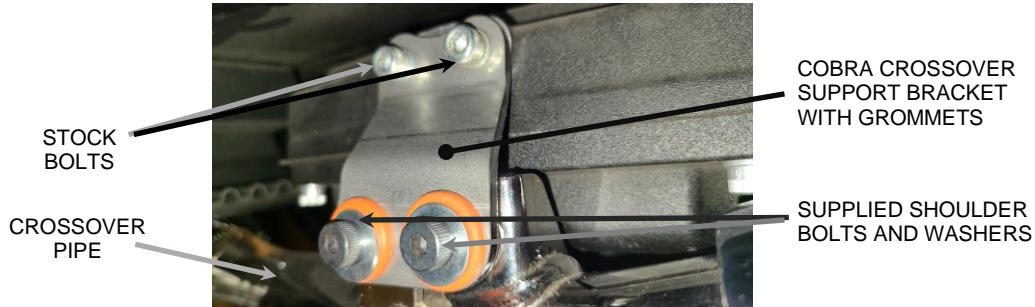

FIGURE 7
13. Apply blue Loctite on the (2) stock allen bolts, install them along with (2) stock washers into the mount bracket upper holes and transmission, lightly snug the bolts but **DO NOT TIGHTEN** at this time, see **Figure 7**. Adjust the crossover pipe fore and aft so the mount with grommets rest flush against the rear of the transmission case. **IMPORTANT: DO NOT** force the crossover pipe forward or backward or up and down to get it into position. If a lot of force is needed to align the crossover pipe and support bracket then adjust the rear headpipe collector assembly until it will align with only enough force to counter act the weight of the left side of the crossover assembly. Also, make sure the crossover pipe has clearance all around and does not make contact with the transmission pan. Adjust as needed while bolts are loose.
17. Make sure the front headpipe, rear headpipe collector assembly, left rear crossover pipe, and mufflers are aligned properly and tighten the (2) crossover support bracket shoulder bolts, then proceed to tighten the (2) previously installed stock allen bolts in the transmission case to factory specification. See **FIGURE 7**